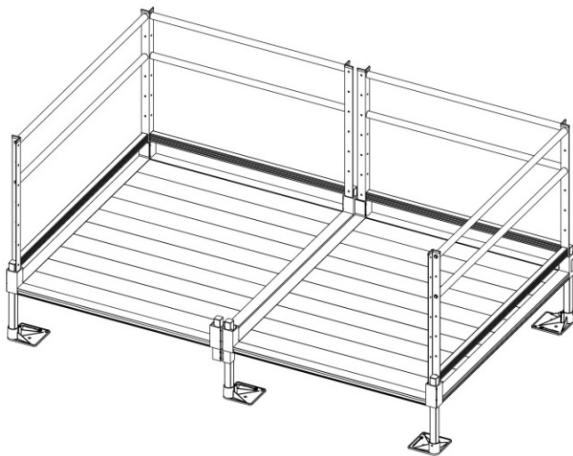

FIG. 2.11
- FIG. 2.11 Low profile platform turn back configuration (two 5' x 4' platforms shown combined to make a 5' x 8' turn back)
- 2.6.3. All three require the same procedure for assembly except for the turn back (FIG. 2.11) which requires an additional HARPPC (CONNECTOR – PLATFORM TO PLATFORM).